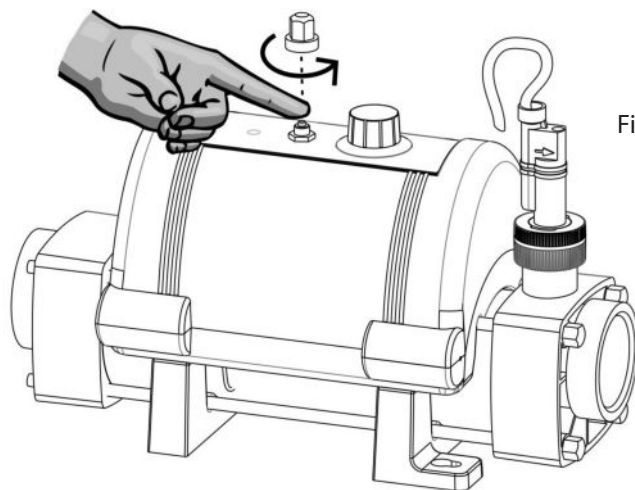

Fig 4.
**Remedy:** Remove button cover and press red button to reset (see fig 4) If a positive click is felt, the cause of the tripping **must** be investigated and could be caused by a debris build-up or air pocket trapped inside the flow tube of the heater.